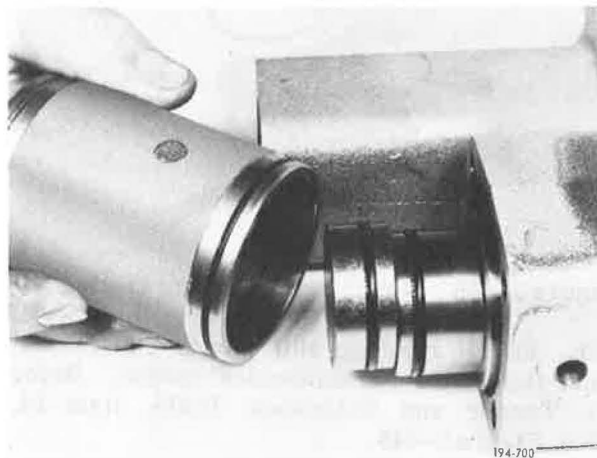

Figure 5-437. Installing Shift Cylinder
12. Install Lo/Direct shift cylinder onto shift cover, by sliding it over the end of the Lo/Direct shift rail. See Figure 5-437.